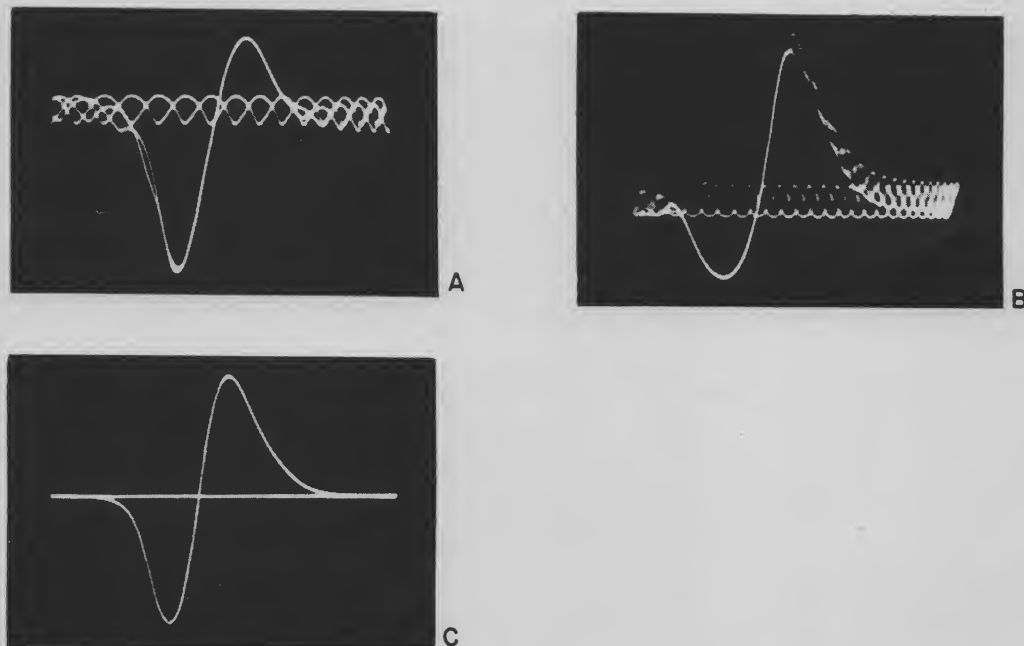

Fig. 10-10. A-M marking of discriminator alignment curve.
*c. Sweep Frequency Generator as Signal Source.* Sweep generator frequency, sweep controls, and 4.5-mc marker injection are same as was described in this section under sound i-f alignment, using a sweep frequency generator. The scope direct probe is placed at the same test points as was the VTVM in f-m detector alignment. The secondary of the detector is then adjusted for crossover of the S-curve at 4.5 mc. The primary is readjusted for proper symmetry of the curve. See Fig. 10-10 for proper f-m detector response.
It may be difficult to adjust the secondary properly because the marker disappears in the region of crossover. It is possible to overcome this by using an a-m 4.5-mc marker instead of c-w marker during this process. Before adjustment of the secondary is completed, the a-m will appear as shown in *A* and *B* in Fig. 10-10. (Sweep generator, with retrace blanking to create a zero base line, is used here.) When the secondary is properly tuned, the a-m will be reduced to minimum or will disappear as shown in *C* of Fig. 10-10.